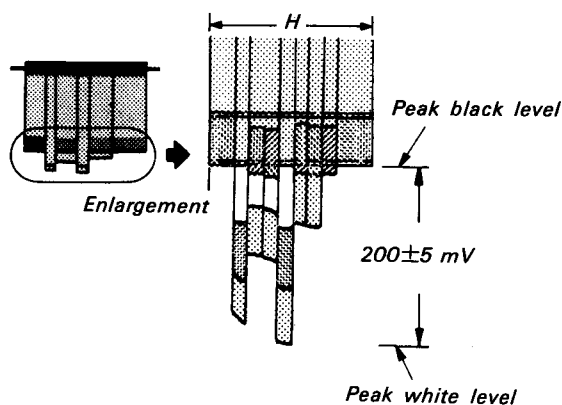

Fig. 7-12.
- 1) By turning RV885 on AT-5 board, adjust for a 200 ± 5 mV signal level with no ND filter mounted on. (See Fig. 7-12) (Be sure to conclude this adjustment by turning RV885 in a direction to lower the signal level.)